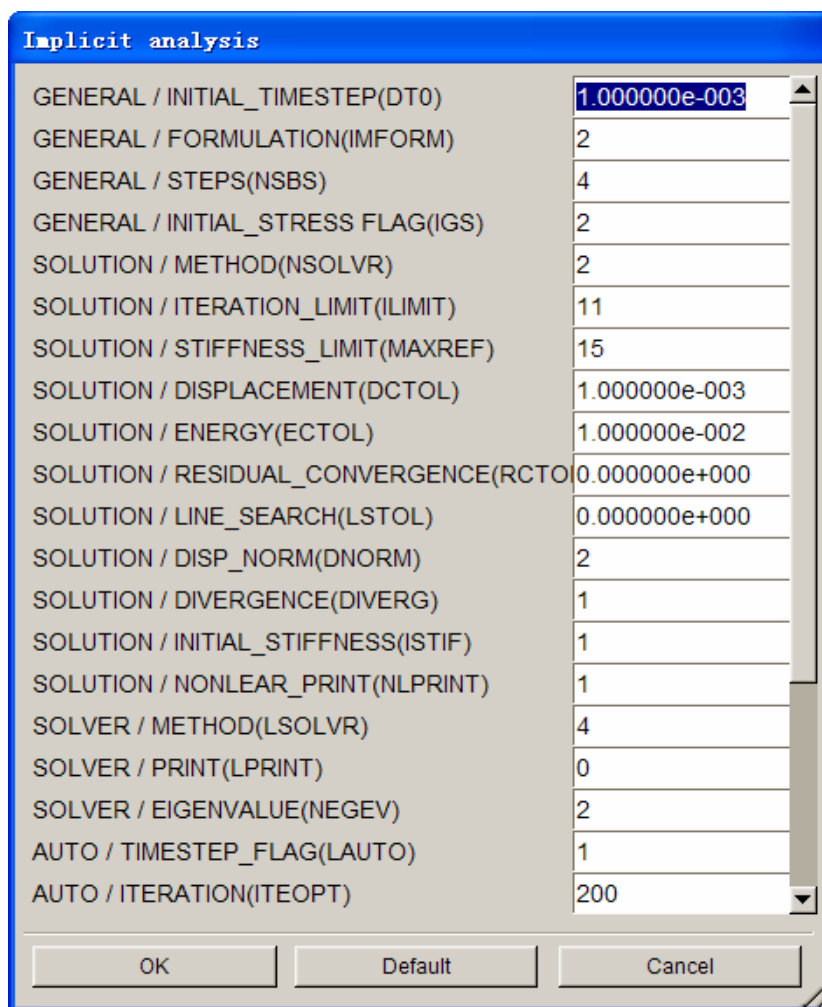

Figure 8.2.99 Advanced Parameter Setup of Implicit Analysis
**ADVANCED...:** Advanced parameter setup of implicit analysis. See Figure 8.2.99 for the list of parameters.